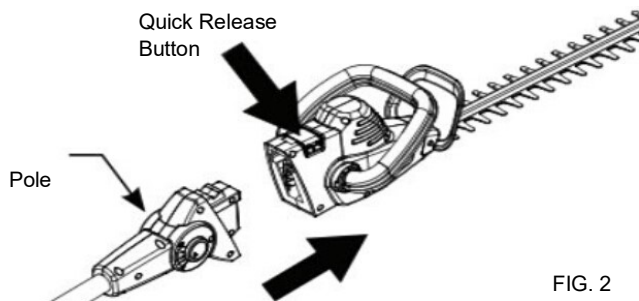

FIG. 2
2. Insert the telescopic pole into the hedge trimmer cutting head. (Fig. 2) Press the quick release button into a locked position.